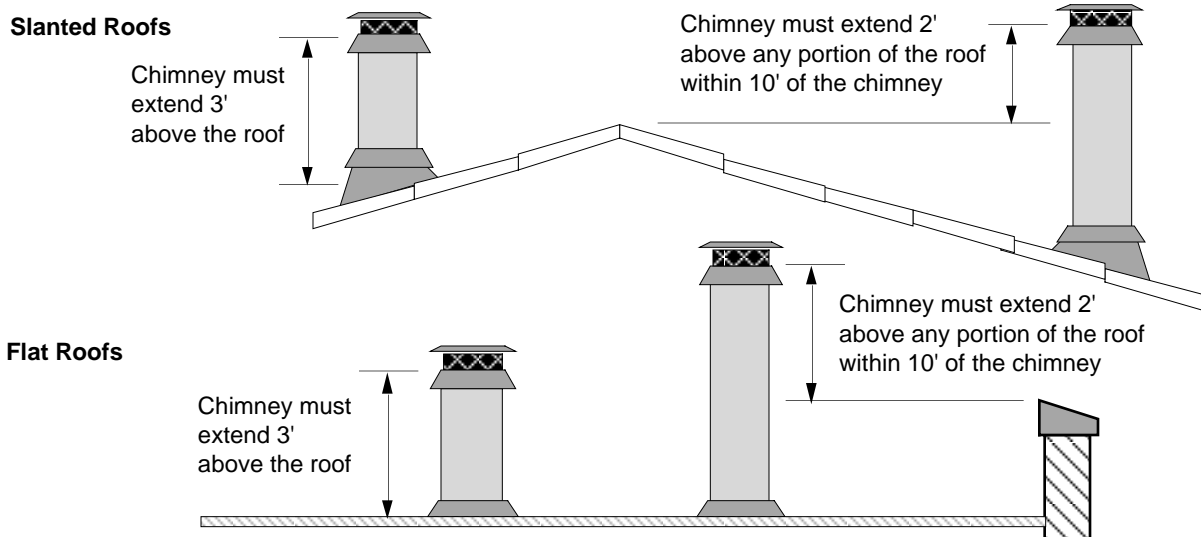

Figure 8
- Must terminate at least 3' above the roof **and** at least 2' above any portion of the roof within 10' (see Figure 8)